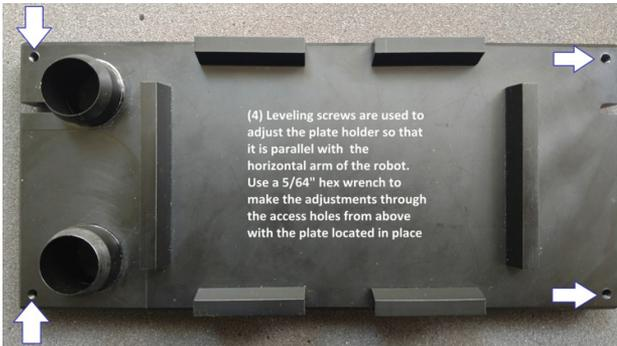

Fig. 41 — Leveling screws are located on the four corners of the well plate holder.
When adjustments are complete, the well plate holder must be stable (no rocking). The location of the (4) adjustment screws is shown in Fig. 41 on page 33. If desired, Loctite 222 (WPI# **7004**) may be used to secure the adjustment (Fig. 42).